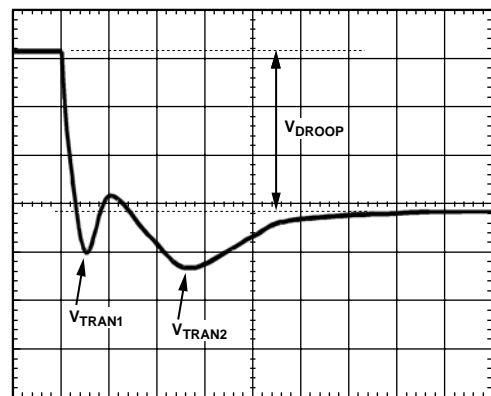

Figure 18. Transient Setting Waveform
- With the dynamic load still set at the maximum step size, expand the scope time scale to see 2 $\mu\text{s}/\text{div}$ to 5 $\mu\text{s}/\text{div}$. The waveform can have two overshoots and one minor undershoot (see Figure 18). Here, V_{DROOP} is the final desired value.